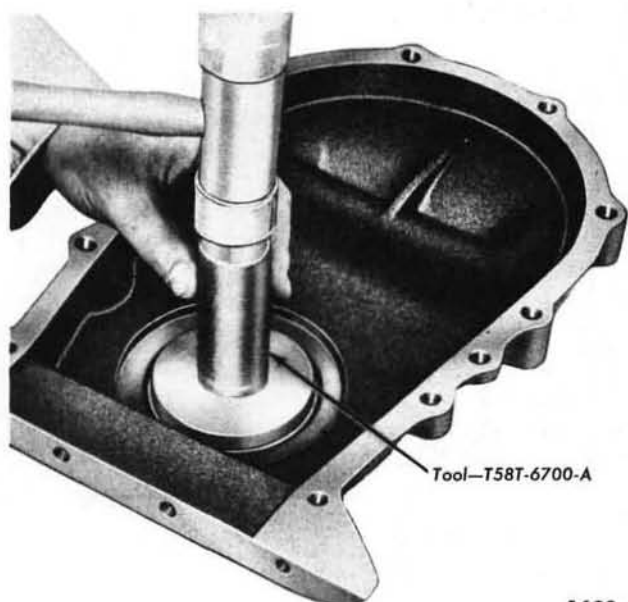

FIG. 33—Oil Seal Installation
2. Coat a new seal with grease, then install the seal (Fig. 33). Drive the seal in until it is fully seated in the recess. Check the seal after installation to be sure the spring is properly positioned in the seal.